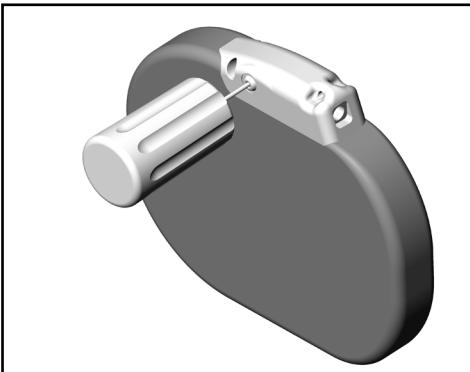

Figure 16: Inserting the torque wrench
2. Gently insert the torque wrench blade into the setscrew by passing it through the preslit, center depression of the seal plug at a 90° angle (*Figure 16*). This will open up the seal plug, relieving any potential pressure build-up from the connector port by providing a pathway to release trapped fluid or air.